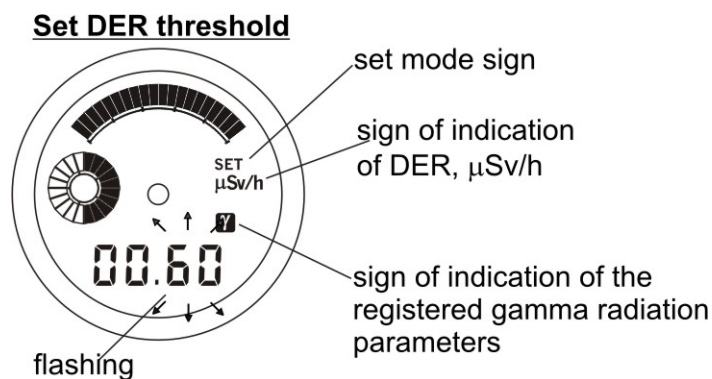

Fig 3.10
3.2.8.3 To set DER threshold switch on DER indication mode according to clause 3.2.2. The long pressing of button 2 (SELECT) switches on the indication of the preset DER threshold on LCD; the two least significant digits (tenths and hundredths of  $\mu\text{Sv/h}$ ) will be flashing, the set mode sign SET will appear and the filled in linear analogue scale will be indicated (Fig. 3.10).